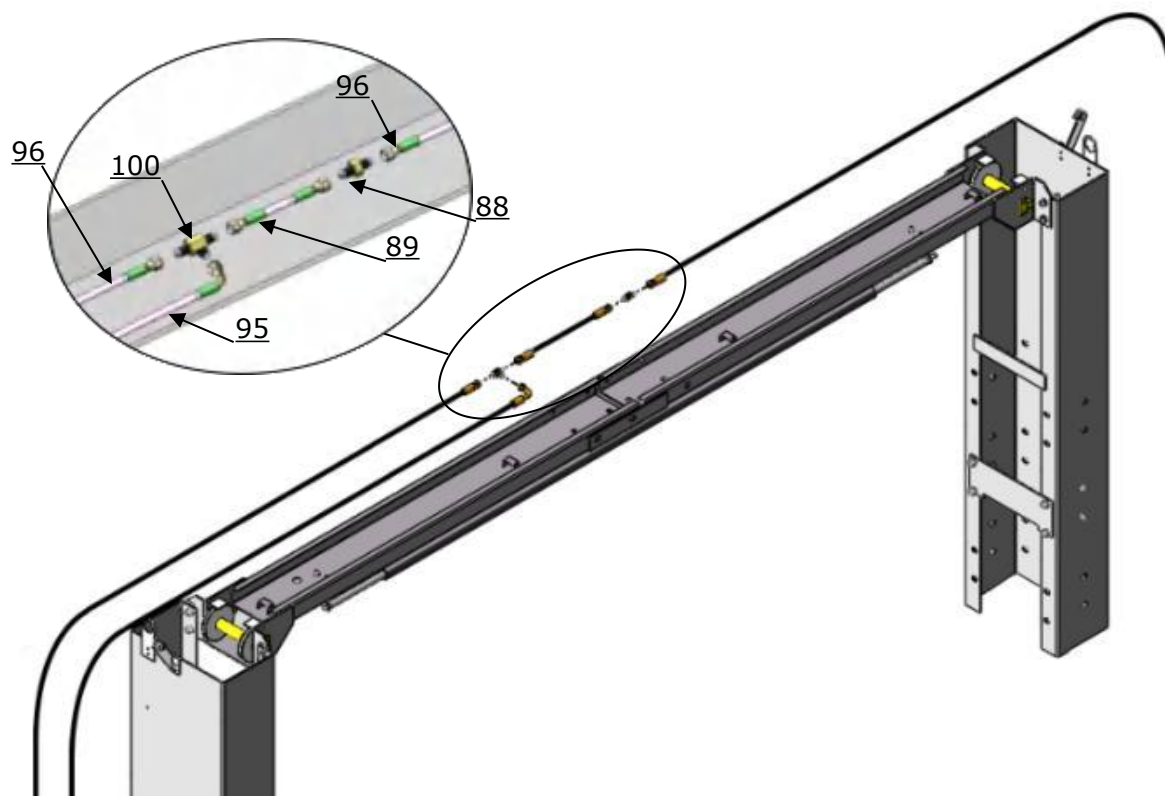

Fig.34
2. Oil hose installation of medium setting.(Fig.34)